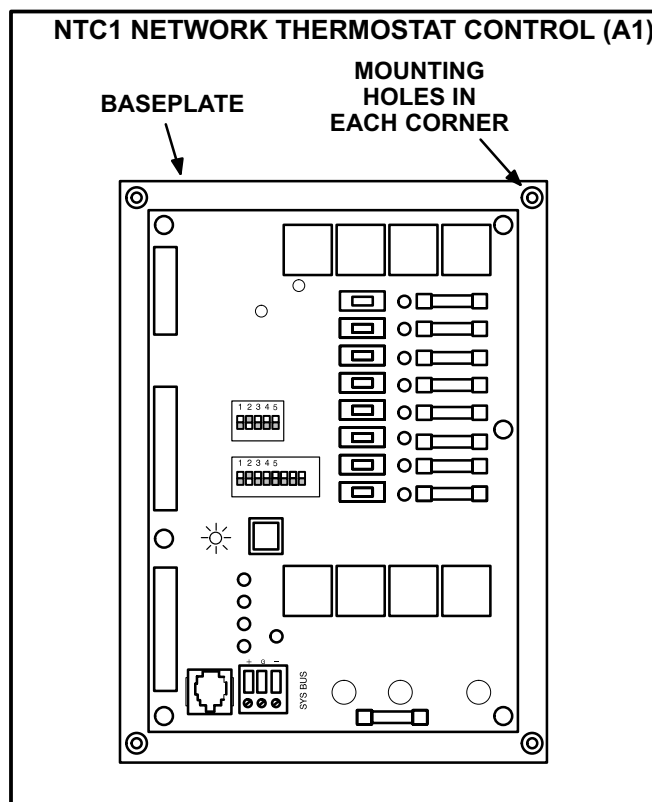

FIGURE 1
- 2- Use NTC1 base as template to mark location of four mounting holes at desired installation site. See figure 1. The NTC1-1 may be installed in any direction.